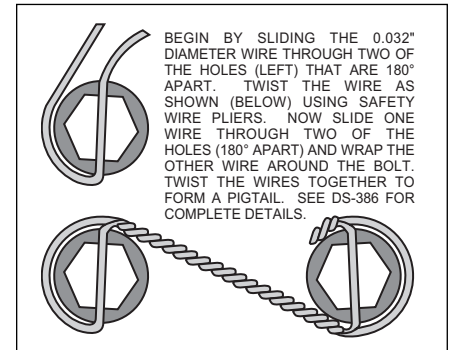

Figure 3. Safety Wire Diagram
- The caliper mounting bracket assembly (1) should be installed first with clean, dry threads on the mounting bolts. The bracket must tighten squarely against the outboard side of the caliper mount bosses on the spindle body. Inspect for interference from casting irregularities, machining ridges, burrs, etc. Slide bolt (2) through lock washer (3) then through the hole in the spindle body where the OEM bolt was removed. Use one thin shim (4) between the bracket and spindle during initial trial fitting. Later, after the caliper, pad and rotor alignment have been checked, and any necessary shims have been put in place, the mount bolts (2) should be coated with red *Loctite*® 271 and torqued to 47 ft-lb.
- With the larger I.D. side of the rotor (5) facing away from the hat (6), bolt rotor (5) to hat (6) through the backside of the rotor using washers (7) and bolts (8). Torque bolts (8) to **85 in-lb**. Safety wire bolts (8) using standard 0.032 inch diameter stainless steel safety wire as shown in Figure 3. Please refer to Wilwood's data sheet DS-386 (available at www.wilwood.org/ds386.pdf) for complete safety wire installation instructions. Slide the rotor/hat assembly onto the spindle. Install a couple of lug nuts (hand tighten) to keep the rotor/hat assembly in place while continuing with the installation.
- NOTE:** Please reference the caution statement at the beginning of the assembly instructions. With the bleed screws pointing up, mount the caliper (9) onto the caliper bracket (1) with the self locking hex nut (10), flat washer (11), through the top of the caliper and mounting stud (12) with flat washer (13) positioned between caliper (9) and caliper mounting bracket (1). Finger tighten. Check to see that the top of the rotor is aligned with the top of the brake pad. If adjustment is necessary, add or subtract flat washers (13). View the rotor (5) through the top opening of the caliper (9). The rotor (5) should be aligned in the center of the caliper (9). If not, adjust the caliper (9) by using 0.033 inch thick shims (4) placed between the spindle assembly and the caliper mounting bracket (1). Finger tighten and recheck alignment. Apply red *Loctite*® 271 to bolt threads (12) and torque to 30 ft-lb.
- Remove the bridge bolt from the caliper (9) and install the disc brake pads (14). Reinstall the caliper bridge bolt.